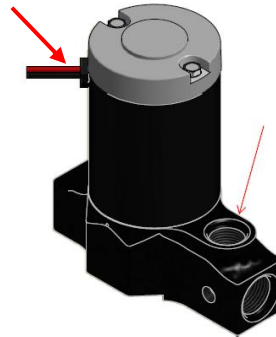

Figure 2
2. Carefully remove pump base making sure the motor stays intact (**Figure 2**). Note the wire location before removal.